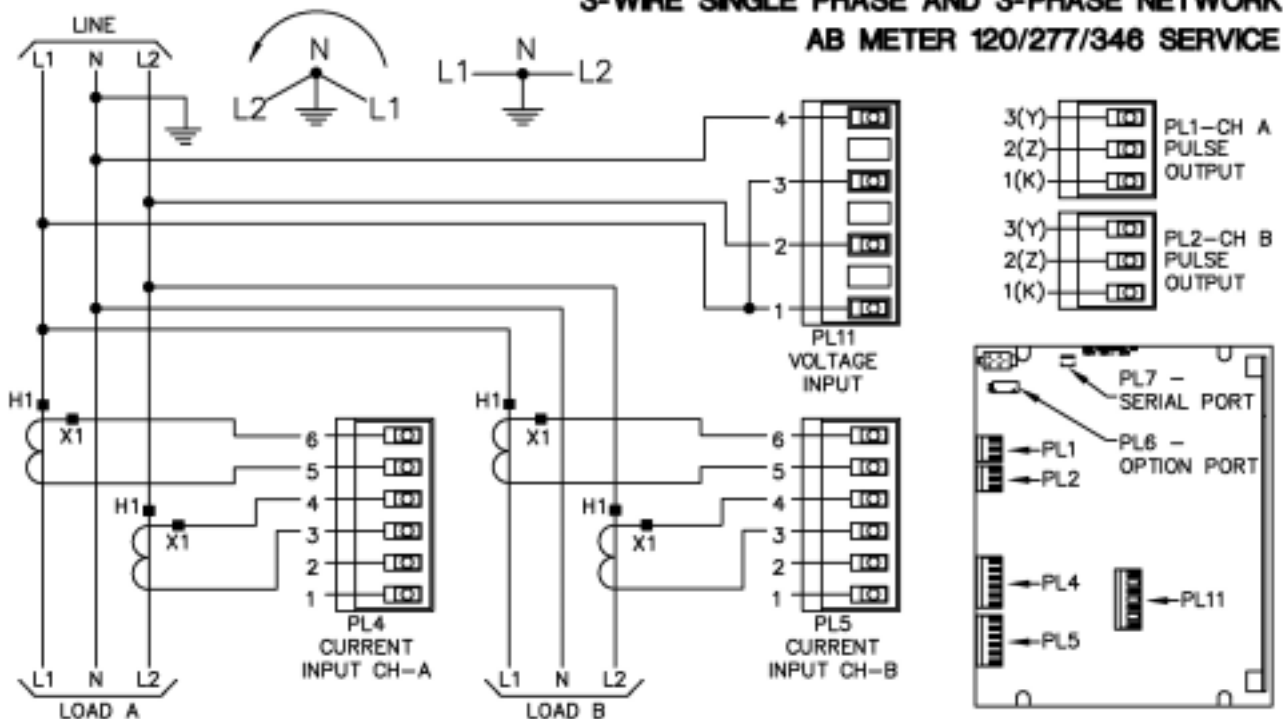

FIGURE 8
4. Run CT leads, potential leads and neutral lead from cabinet to Intellimeter enclosure. Use a maximum size #14 AWG THHN stranded and make all three wire harnesses a minimum of 10 inches long, otherwise you will have difficulty plugging in the 1 ea. 4 position connector and the 2 ea. 6 position connectors. See Figure 8.